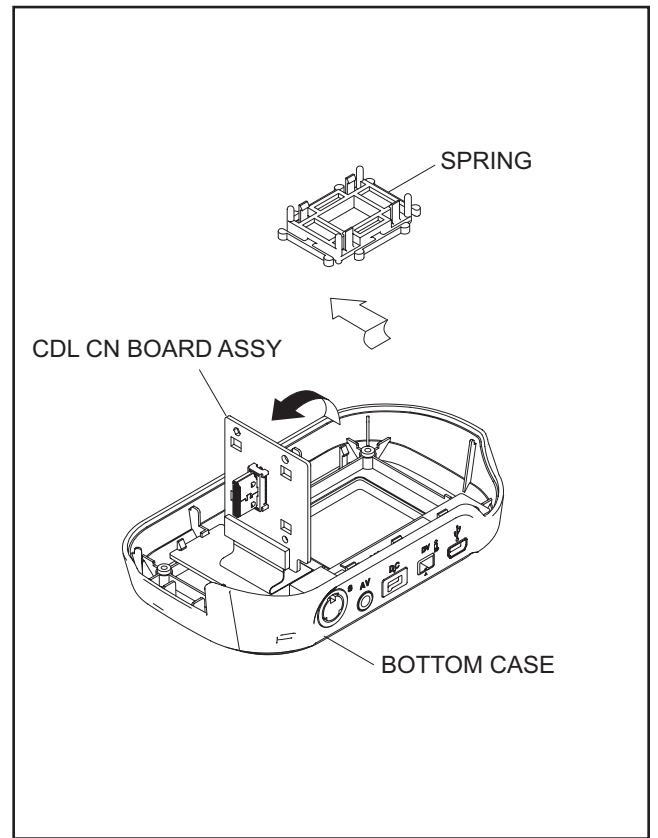

Fig.2-3-3
3. Removing the SPRING (Refer to Fig.2-3-3)